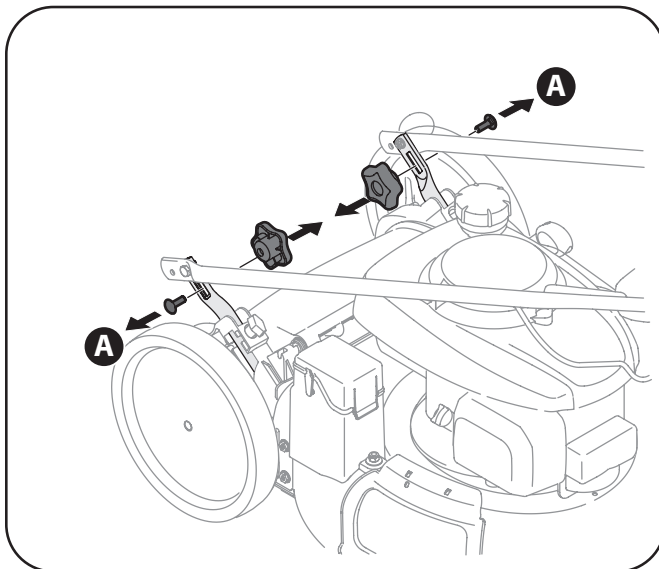

Figure 3-1
- a. Remove knobs and carriage bolts from handle as shown in Fig. 3-1. Do not loosen or remove adjacent hex head screws.